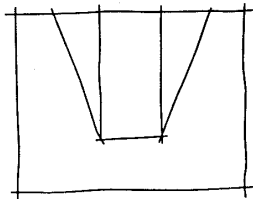

FIGURE 2.35 ■ Step 2, draw features to proper proportions.
- Step 2. Cut sections out or away using proper proportions as measured by eye, using light lines, as in Figure 2.35.